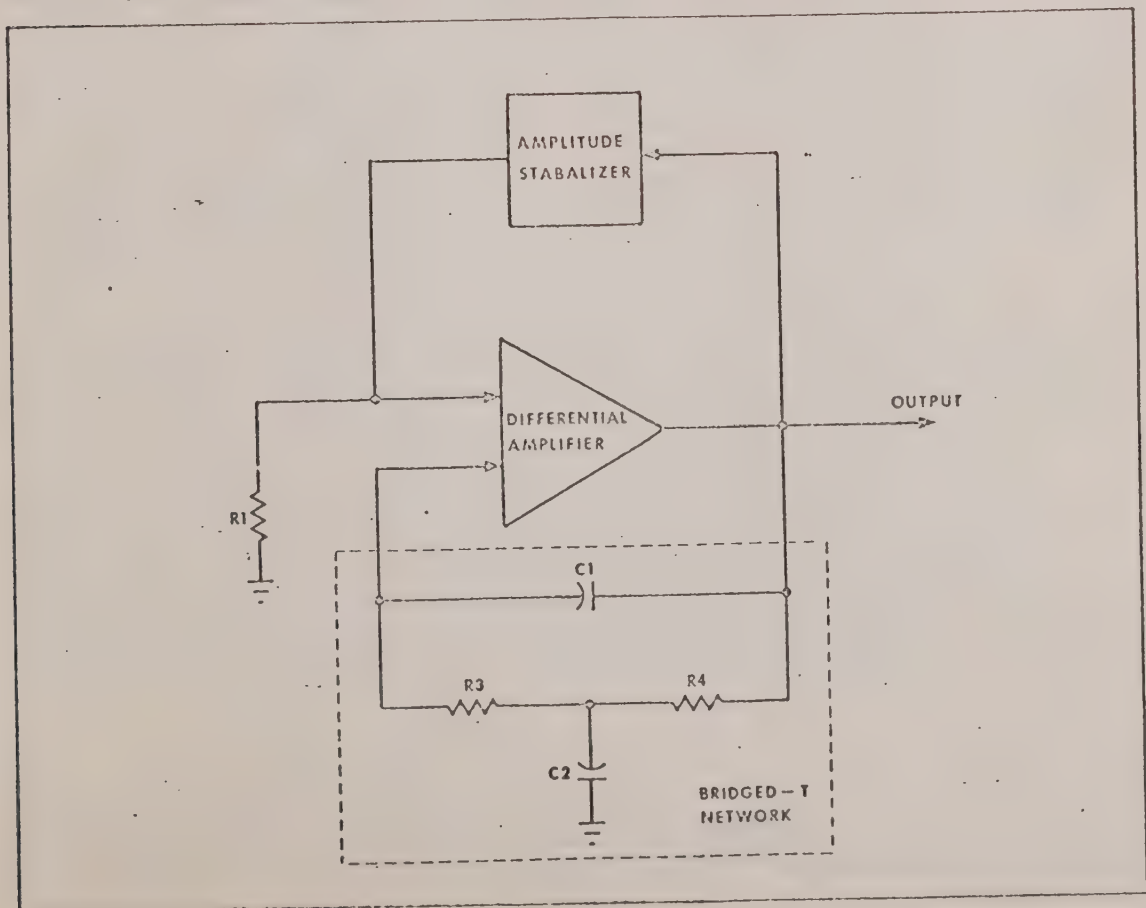

Figure 4-3. Bridged-T Network Equivalent Circuit.
of this transmission slope. Figure 4-3 shows a simplified equivalent circuit for the bridged-T network.
1. The DECADE range switch S6B-S6D selects the appropriate value of capacitors C1-C2 of figure 4-3, which determines the four decade frequency ranges. DECADE range switch S6A connects the corresponding front panel decimal indicator lamps DS1-DS2-DS3-DS4 to -12 volts and the frequency setting is always displayed directly in Hertz. Variable capacitors C1E and C2F calibrate the frequency on the 10 to 100 kilohertz frequency range.
2. The FREQUENCY IN CYCLES PER SECOND switches S1-S2-S3 select the appropriate resistance values of R3-R4 in figure 4-3, which sets the incremental frequency steps of the Oscillator. R3 and R4 of figure 4-3 represent the three digits S1-S2-S3 which are switched resistance decks connected in parallel. The first two significant digits utilize nine resistors in a progressive shorting configuration. The frequency is inversely proportional to resistance and will go up as the selected resistance goes down. For example, two resistors in parallel will provide half the resistance and therefore twice the frequency of oscillation; three in parallel provides one-third the resistance and three times the frequency, etc. The third digit uses a series ladder arrangement of resistors. This series configuration minimizes any unwanted capacitive reactance at the higher resistance values required. In order for the frequency digits to be related by decades, the resistors in the second digit have a value 10 times those used in the first digit, and etc. Specifically, the first digit has nine 31,350 ohm resistors, the second digit has 313,500 ohm resistors. The third digit has appropriate values of resistors in the ladder to maintain this decade relationship. The Differential Amplifier is designed for optimum performance with values of R3-R4 (of figure 4-3) from approximately 3,000 ohms to 30,000 ohms and the best performance is achieved when the most significant digit of the desired frequency is set in the first or left-hand frequency digit.